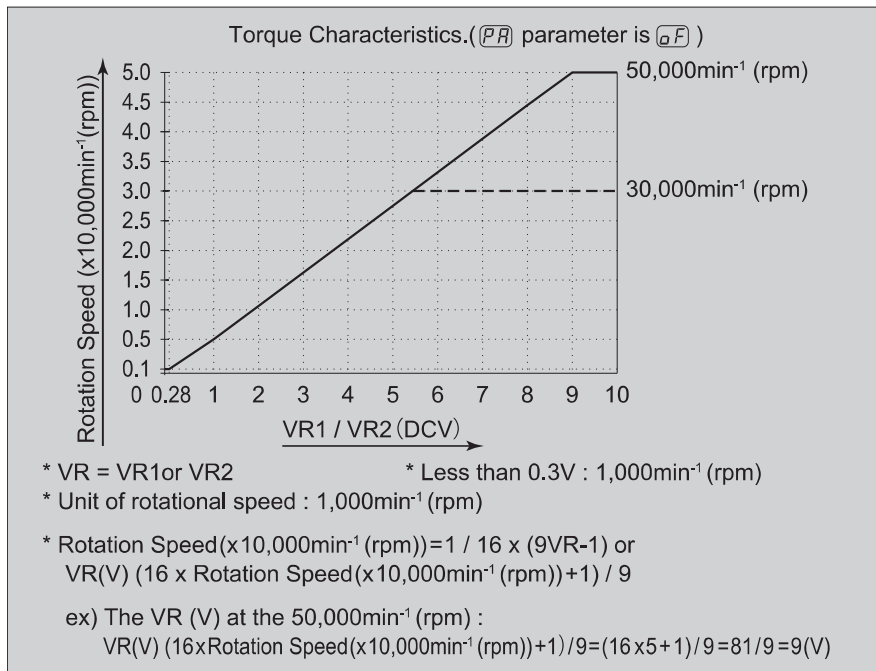
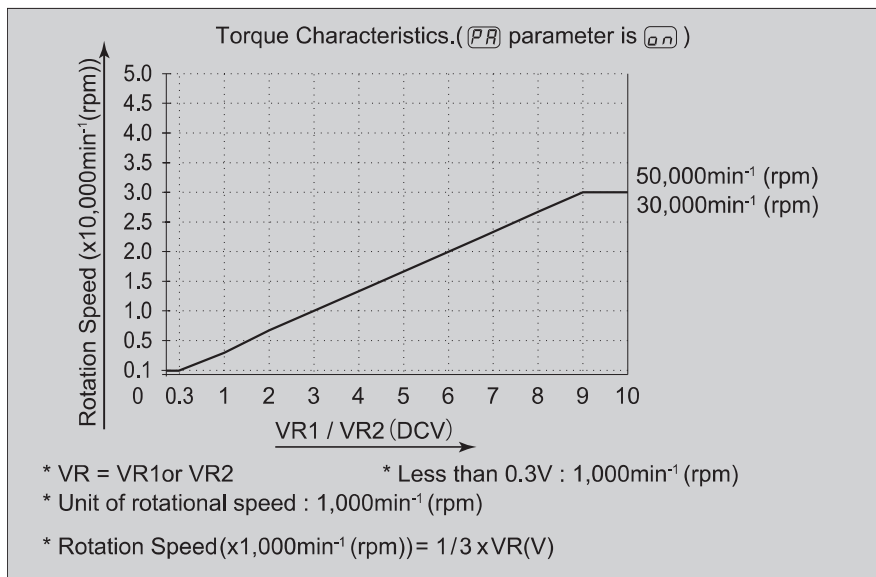

Fig. 36
Fig. 37
- The Fig. 36 are Characteristics of the Motor Speed Control Voltage Signal and rotation speed by parameter $P8$ set to $0F$. The Fig. 37 are Characteristics of the Motor Speed Control Voltage Signal and rotation speed by parameter $P8$ set to $0n$.